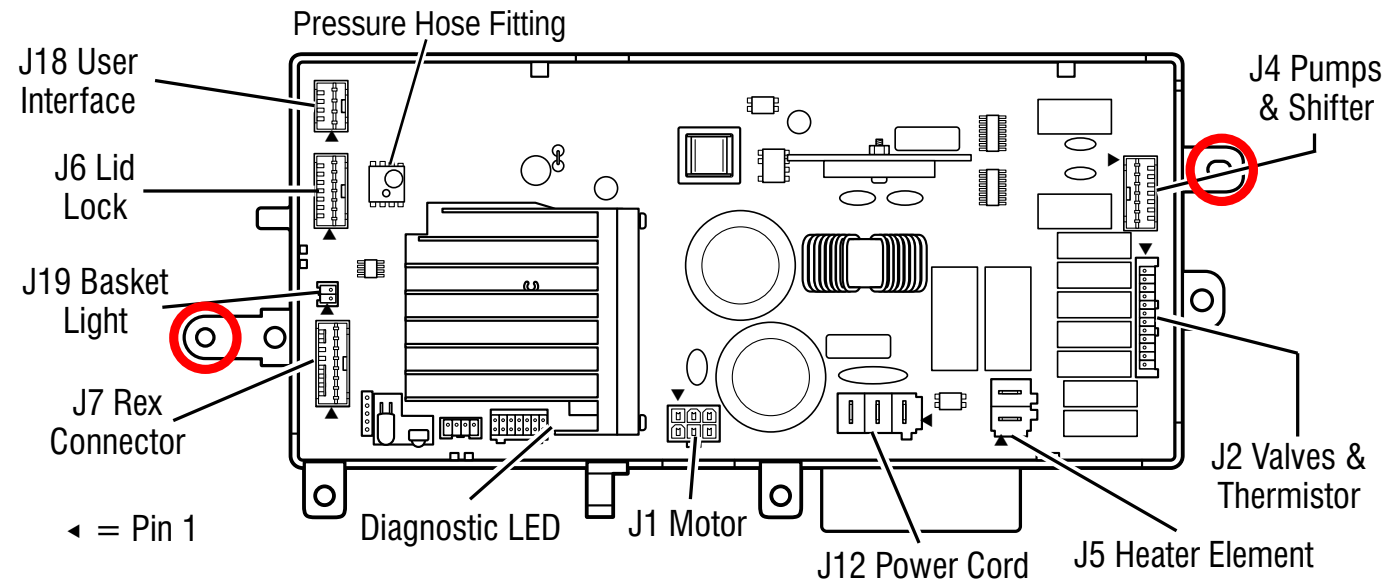

Figure 1
4. Remove pressure hose from Main Control (see Figure 1).
5. Disconnect all connectors from the Main Control (see Figure 1).
6. Using a 1/4” nut driver, remove the two (2) hex-head screws (locations circled in Figure 1) securing the main control to the top panel of the washer. Remove board.